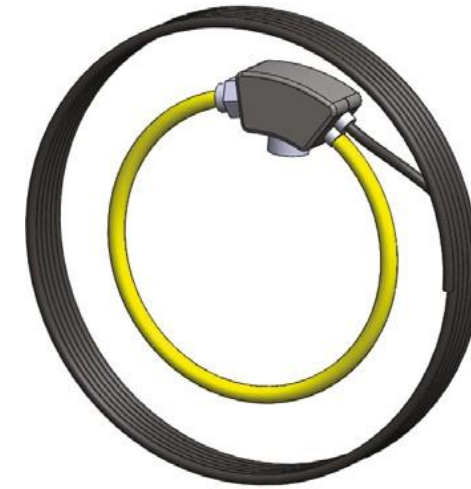

Figure 28: Rogowski coil
- a. Locate the Rogowski current sensor cable (Item-E), Represented in below Figure 28.